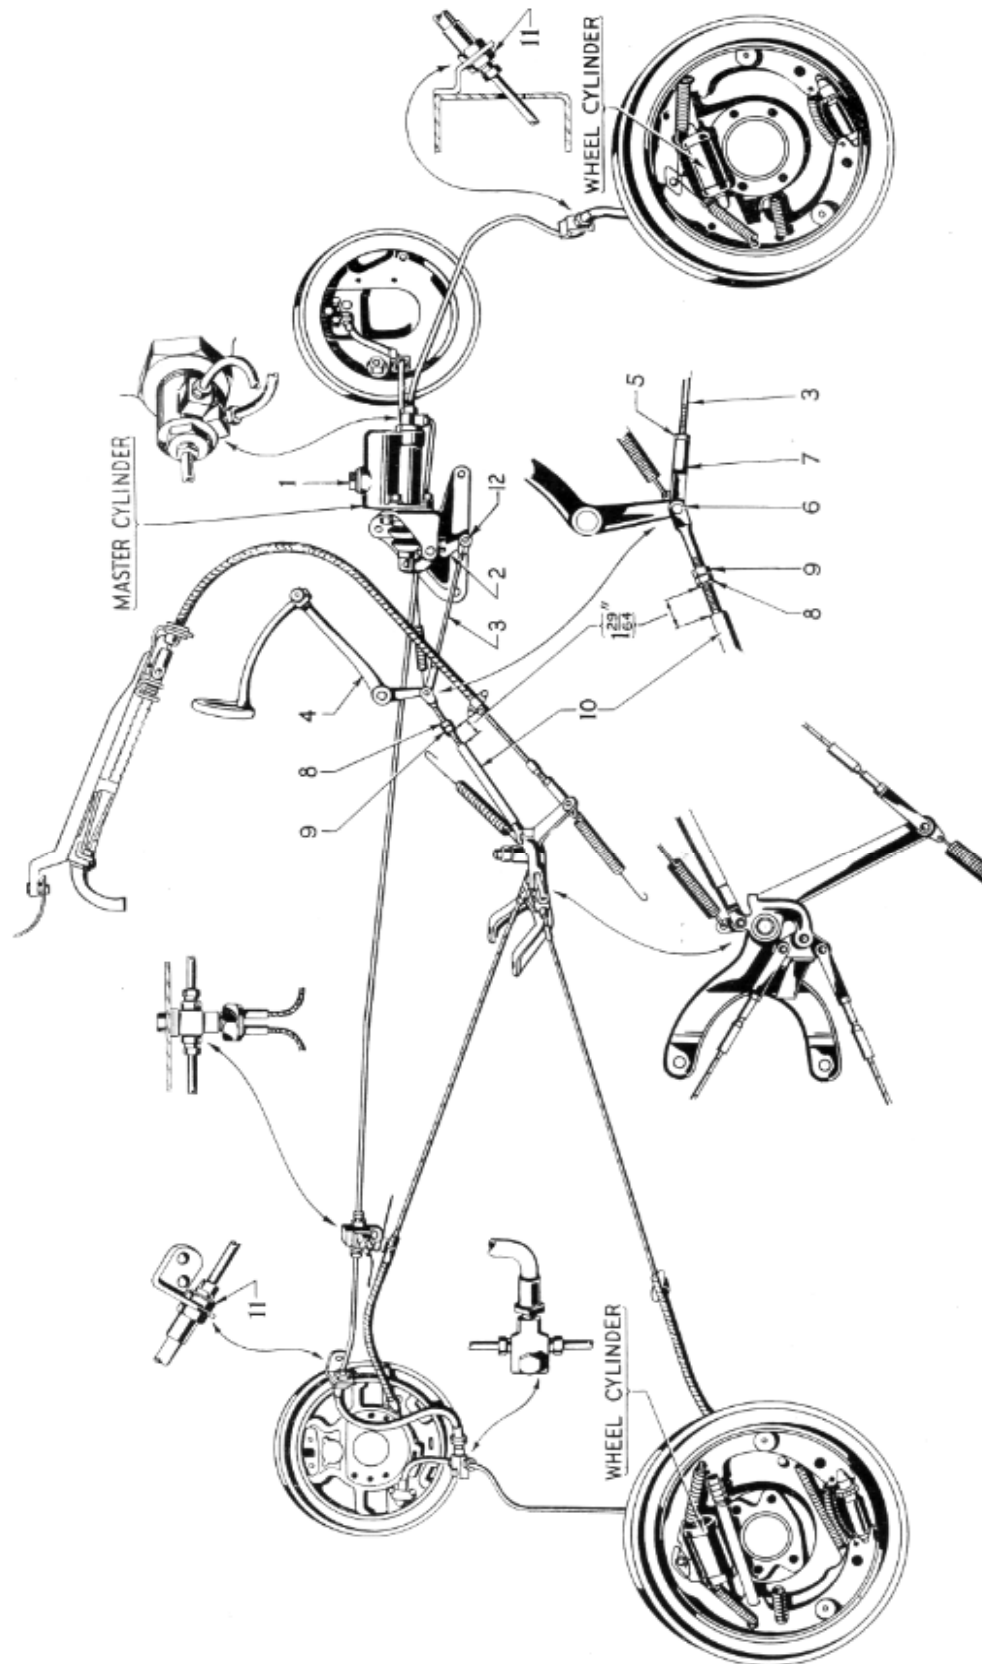
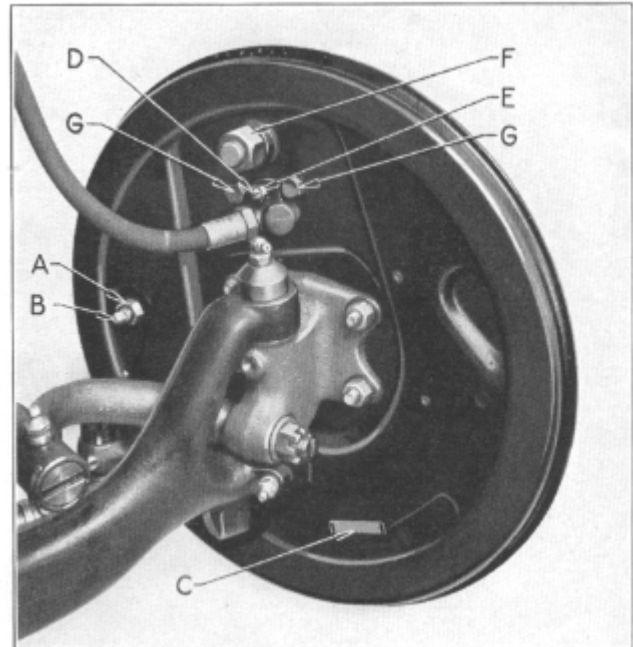
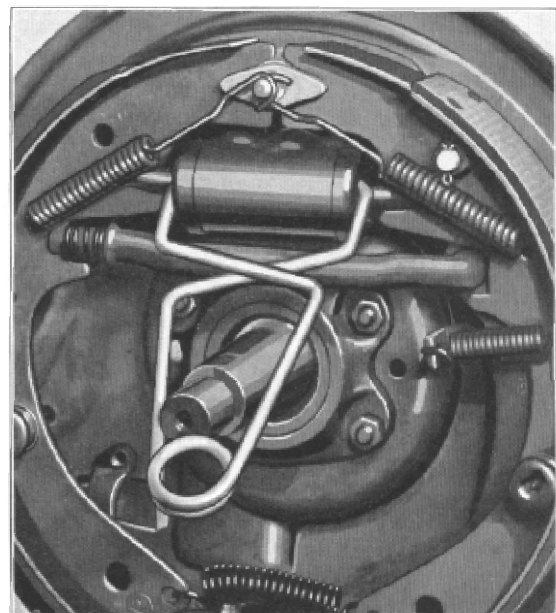
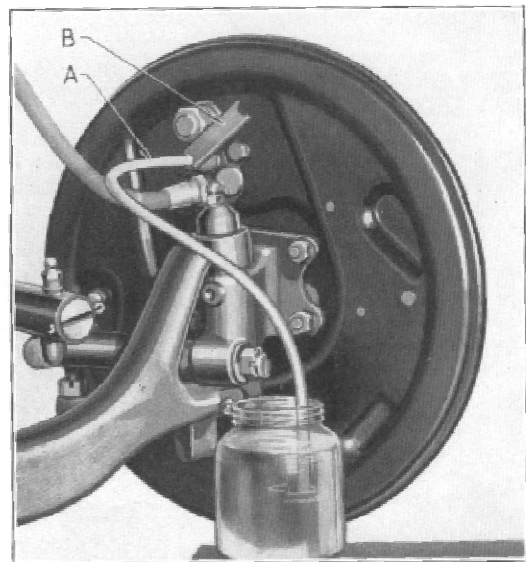

Figure 1
Figure 4
Figure 5
Figure 7
The movement from both the hand brake and the foot pedal is transmitted to a rotary equalizer mounted under the center of the frame "X" member, to which the rear brake operating cables are also attached. An adjustable pedal push rod (10), Figure 1, provides an adjustment for determining the amount that the mechanical application of the rear brakes will lag behind the hydraulic application. Normally only hydraulic application is made when the foot pedal is depressed.
Disconnect tube from hose at frame bracket. Remove hose lock nut (11), Figure 1, at frame bracket. Remove the two cylinder fastening screws (G), Figure 4, on rear of shield. Place piston clamp on wheel cylinder as shown in Figure 5. Remove brake shoe retracting springs (3-5-15), Figure 6, which permits shoes to move outward. Remove connecting links (12) between cylinder pistons and brake shoes. Cylinder and hose may be withdrawn as a unit.
Disconnect tube from cylinder fitting. Remove the two cylinder fastening screws (G), Figure 4, on rear of shield. Place piston clamp on wheel cylinder as shown in Figure 5. Remove brake shoe retracting springs and connecting links. Cylinder may then be withdrawn.
Remove screw (D), Figure 4, from end of bleeder valve and attach bleeder tube (J-628), Figure 7. Allow tube to hang in clean container, such as a pint mason jar. With bleeder wrench (J-627) (B, Figure 7), unscrew bleeder valve three-quarters of a turn and depress foot pedal by hand, allowing pedal to return to released position slowly. This gives a pumping action which forces fluid through tubing and out at wheel cylinders, carrying with it any air that may be present. *CAUTION: After brake pedal is depressed, it must be allowed to return slowly; otherwise air may be drawn into system.*
Check to see that the pedal return spring holds the bottom of lever (2), Figure 1, against the stop. If the pedal shank touches the toe board in the fully released position or has more than 3/8" clearance, loosen lock nut (5), Figure 1, on the cylinder connecting link. Remove clevis pin (12) from bottom of bell crank (2). Turn connecting link to increase length until clevis pin (12) just enters the rod with the pedal shank 1/4" from the toe board and the bell crank against its stop. Reinsert clevis pin (12) in bottom of bell crank (2) and tighten lock nut (5).
There are only two points of adjustment in the braking system to compensate for brake lining wear. The Eccentric Adjustment (B), Figure 4, centralizes the brake shoes in the drum. The Adjusting Screw (10), Figure 6, takes up the clearances between the lining surfaces and the brake drums.
- (1) Jack up all wheels clear of the floor.
- (2) Remove clevis pins which attach rear wheel cables to equalizer bar.
- (3) After uncovering adjusting holes (C), Figure 4, and feeler gauge holes in brake drums, AT EACH WHEEL: Loosen eccentric lock nut (A) and insert .010" feeler gauge between the lining of secondary (eccentric controlled) shoe and brake drum. Turn the eccentric adjustment (B) in the direction of forward wheel revolution until .010" feeler is just snug at anchor and adjusting ends of secondary shoe. Tighten eccentric lock nut.